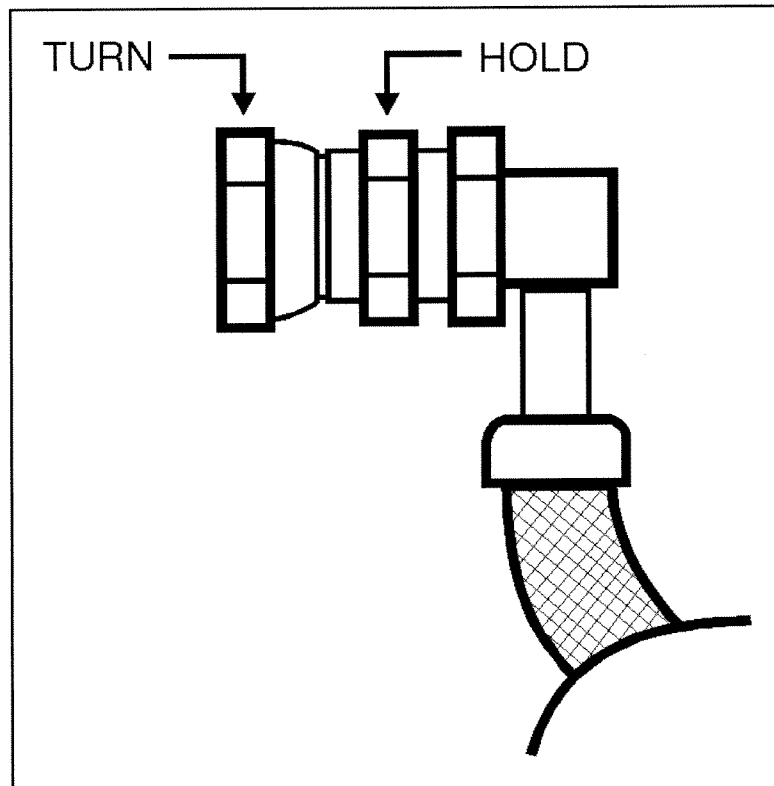

Figure 32 Connecting the Right Angle Hose End
1. Decide whether the right angle hose end will be attached to the compressor unit or to the cold head. The right angle ends must be attached first, as shown in Figure 32, to ensure that they will exit the unit at the correct angle.